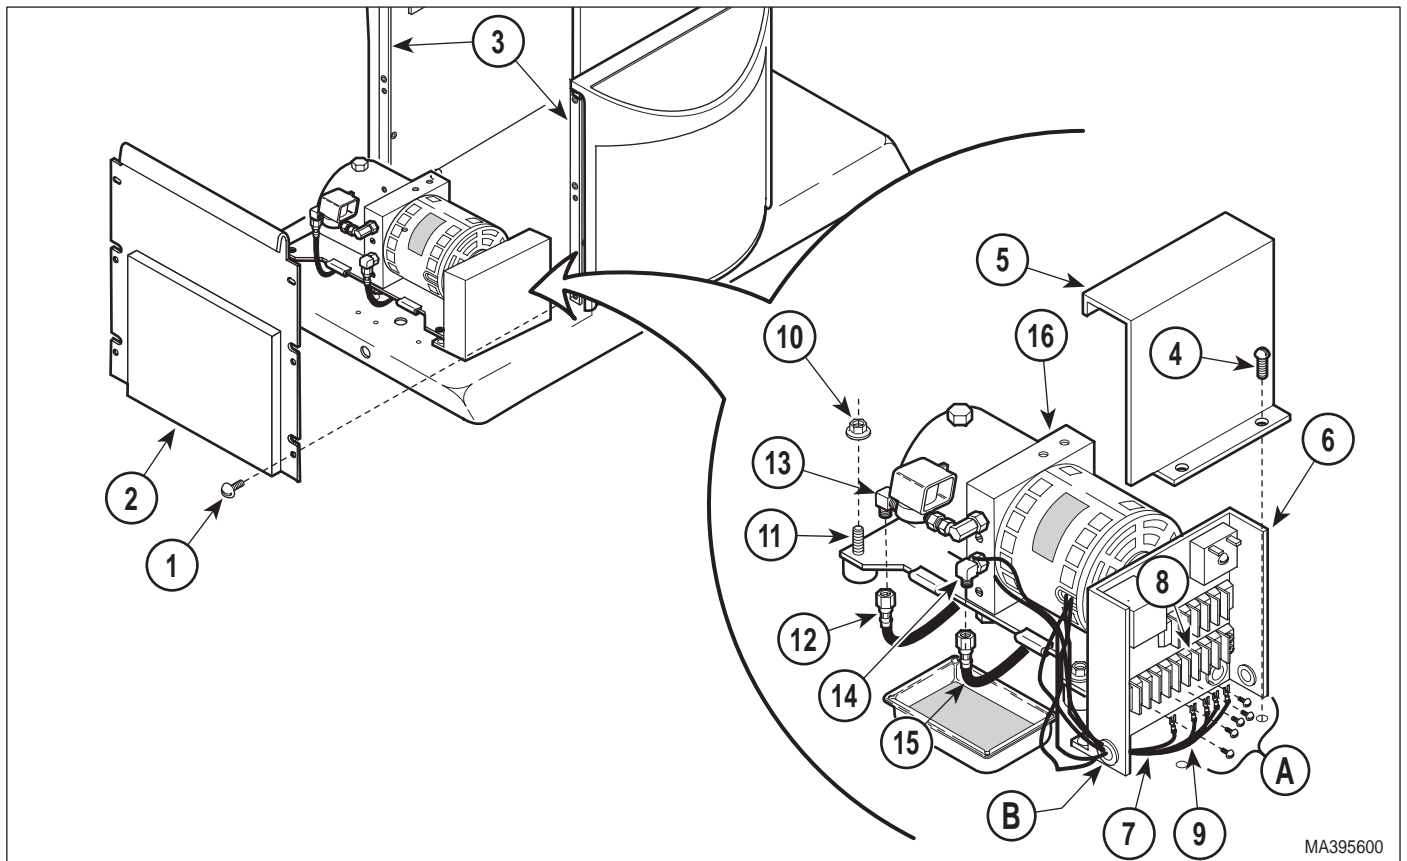

Figure 4-8. Motor Pump Assembly - Complete Removal / Installation
- (1) Unplug table power cord from outlet.
- (2) Remove motor cover assembly (Refer to para 4.2).
- (3) Remove four screws (1, Figure 4-8) and back outer shroud (2) from left and right hand outer shrouds (3).